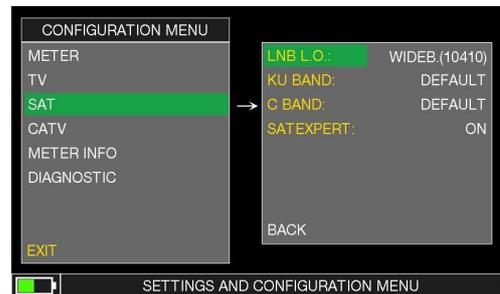

Fig.7 Wide band setup in the configuration menu.
- If the logger is run when connected to a Wide Band LNB, the LNB setting of the meter must be on Wide Band. Press the “Volume” key to access the configuration menu and select **SAT**, set the “LNB L.O.” to “WIDEB.”, (ref. fig. 7 ). Set the “SOTP&GO” logger entry to “TV&WbandLNB” (ref. fig.4). Then follow the instructions the meter will display.